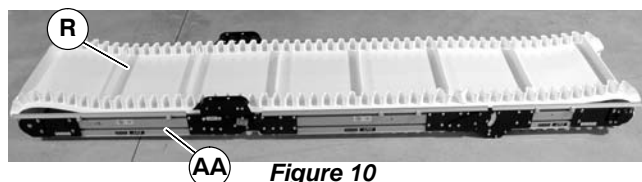

Figure 10
6. Slide belt (R of Figure 10) over assembled conveyor sections (AA).